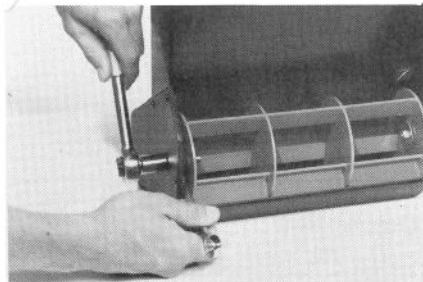

Figure 11
1. Remove the rotor pin, locknut and washer using a 9/16" open end wrench and a 9/16" socket (Fig. 11).